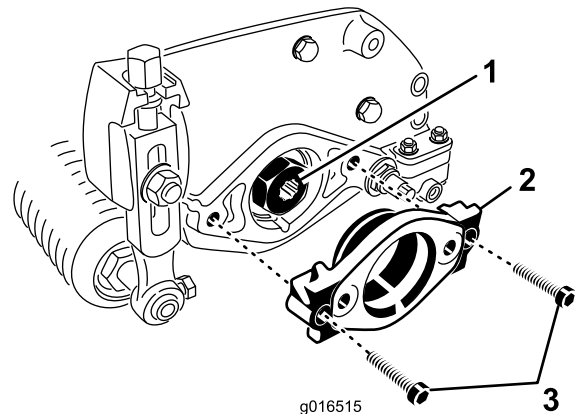

Figure 8
2. Remove the 2 Allen head screws securing the motor mount to the left end of the cutting unit. Remove the motor mount (Figure 8).
3. Apply grease to the inside diameter of the drive spline (Figure 8).
4. On the left end of the cutting unit, apply a light coating of oil to the O-ring and install the motor mount with the 2 Allen head screws previously removed (Figure 8). Torque the screws to 16–20 N-m (12–15 ft-lb).